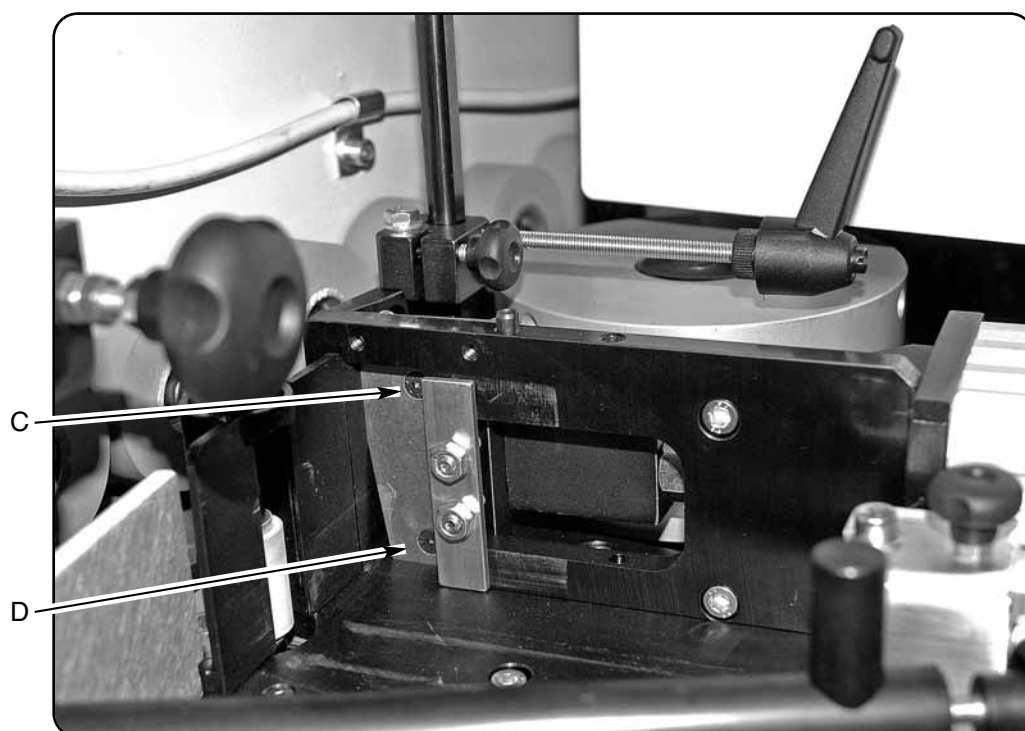

fig. 3.4.3
- unscrew the two fixing screws of the knife C and D fig. 3.4.3
- re-mount as indicated in fig. 3.4.3